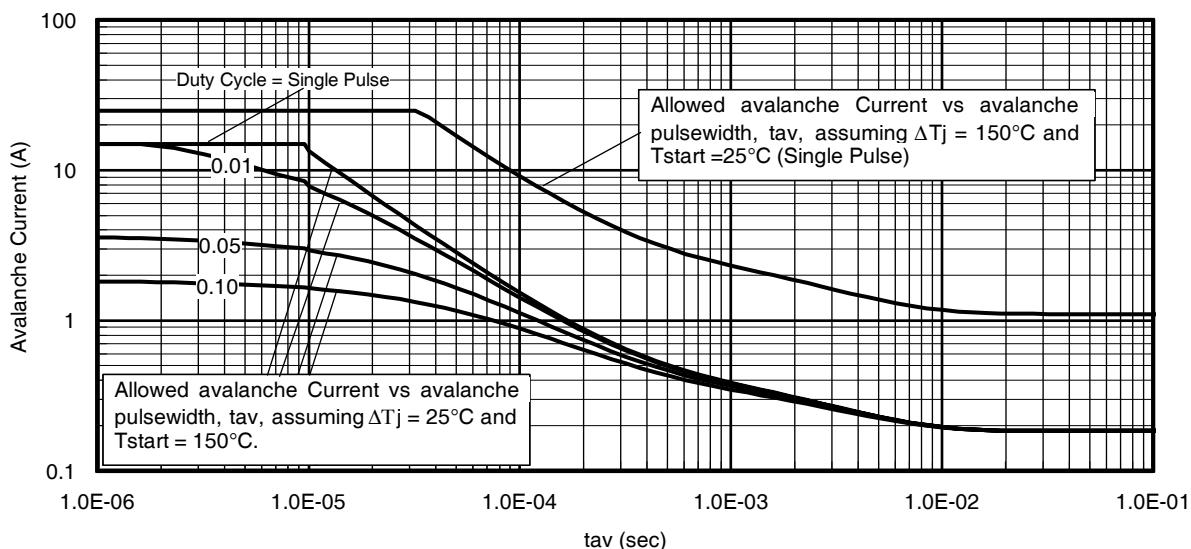

Fig 14. Typical Avalanche Current Vs. Pulsewidth
- ① Repetitive rating; pulse width limited by max. junction temperature.
② Starting $T_J = 25^\circ\text{C}$, $L = 1.00\text{mH}$, $R_G = 25\Omega$, $I_{\text{AS}} = 15\text{A}$.
③ Pulse width $\leq 400\mu\text{s}$; duty cycle $\leq 2\%$.
④ R_θ is measured at T_J of approximately 90°C .
⑤ Limited by $T_{j\text{max}}$. See Figs. 14, 15, 17a, 17b for repetitive avalanche information
Notes on Repetitive Avalanche Curves , Figures 14, 15:
7. ΔT = Allowable rise in junction temperature, not to exceed T_{jmax} (assumed as 25°C in Figure 14, 15).